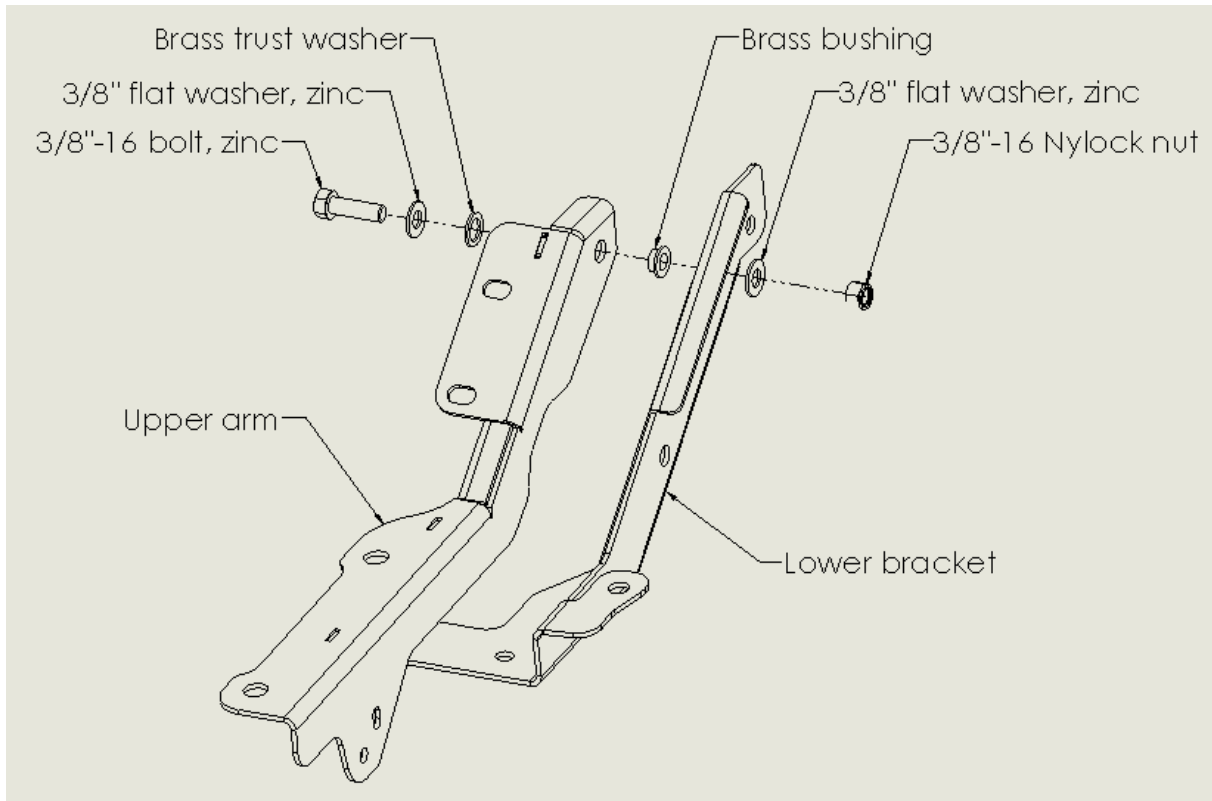

Fig 6
- h. Press install the brass bushing into the upper hole in the Upper arm as shown in **Fig 6**.
- i. Insert the 3/8"-16 x 1.25" bolt with washer and thrust washer into the brass bushing as shown in **Fig 6** forming the upper arm sub assembly.